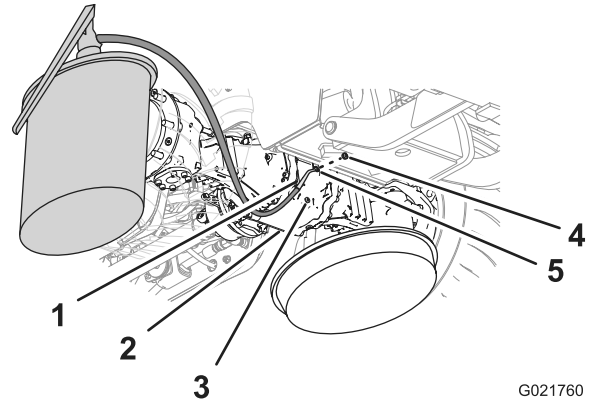
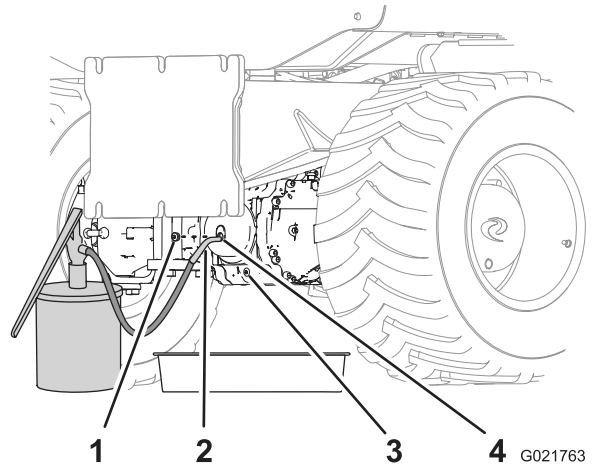

Figure 68
Figure 69
5. Install one of the plugs into the drain port (Figure 68 and Figure 69).
6. Fill the pinion housing and axle with the specified oil through the sight port until the oil is level with the threads at the bottom of the port (Figure 68 and Figure 69).
8. Install the remaining plug into the sight port of the pinion housing (Figure 68 and Figure 69).